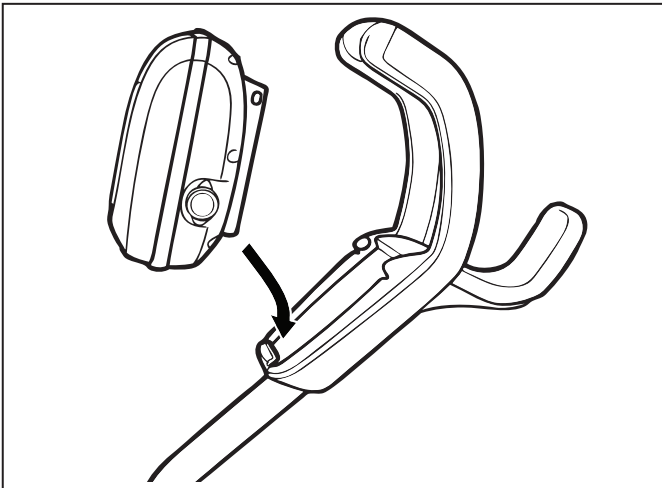

Figure 10. Align Control box with Caddy Hook
1. Align the bottom of the control box with the notch at bottom of the control box hook on the caddy (Figure 10).